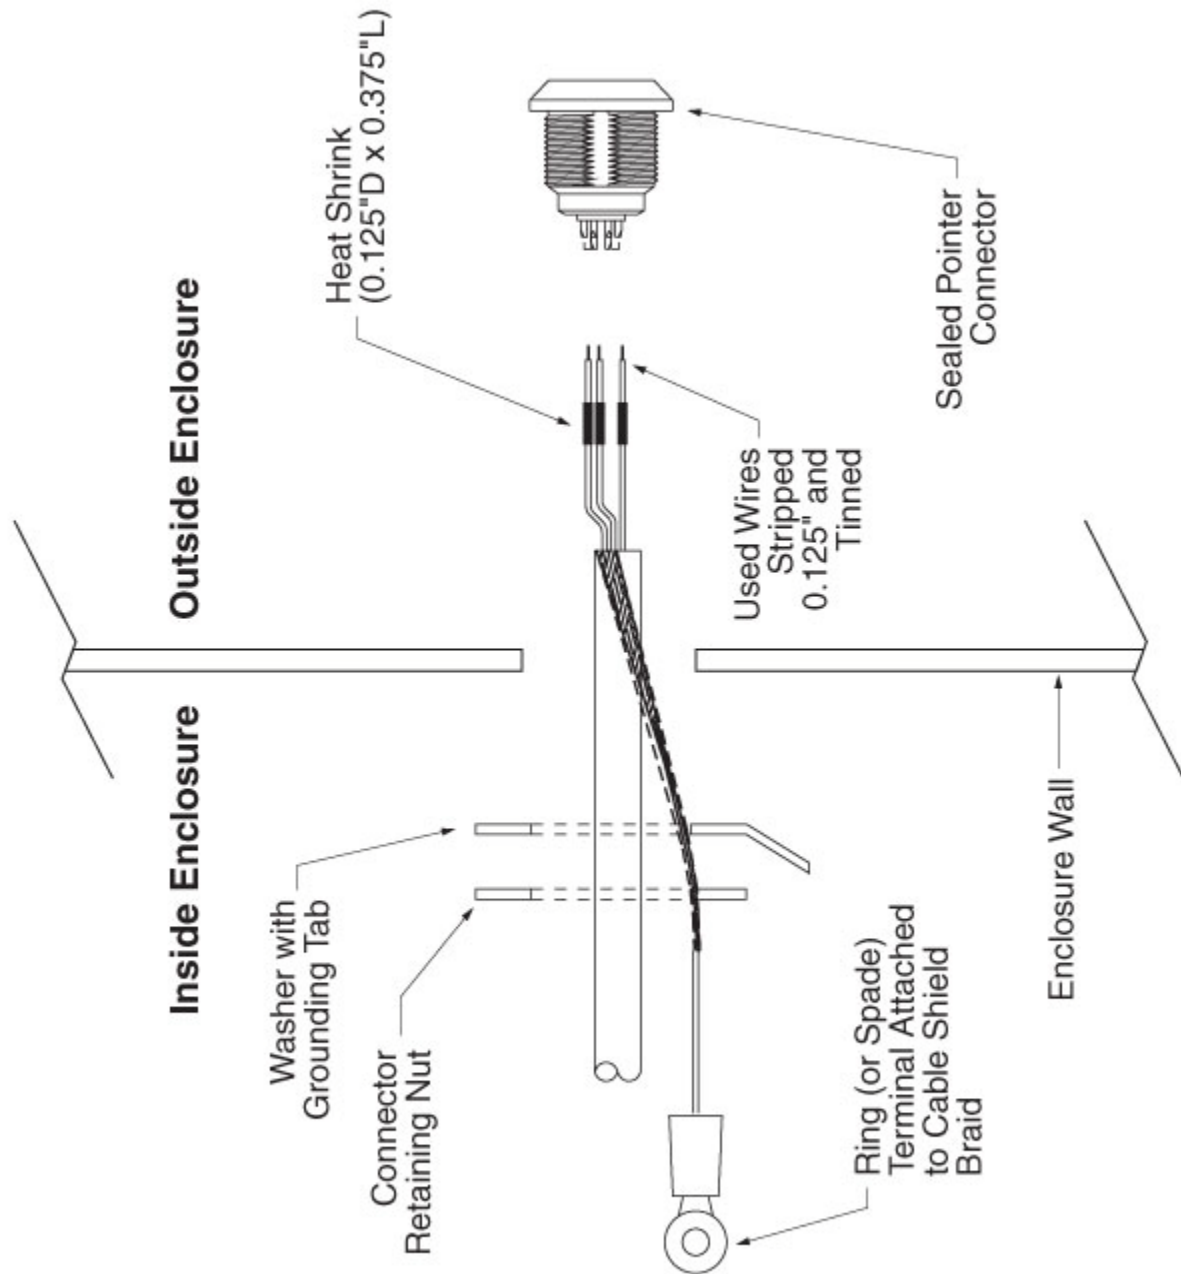

Figure 2-2 Sealed Pointing Device Connector Installation
8. Thread the cable, in the order listed, through the connector retaining nut, the washer with grounding tab, and the mounting hole in the enclosure so that enough of the cable is exposed outside of the enclosure to allow you to solder the connector. See Figure 2-2 on page 11 for an illustration.